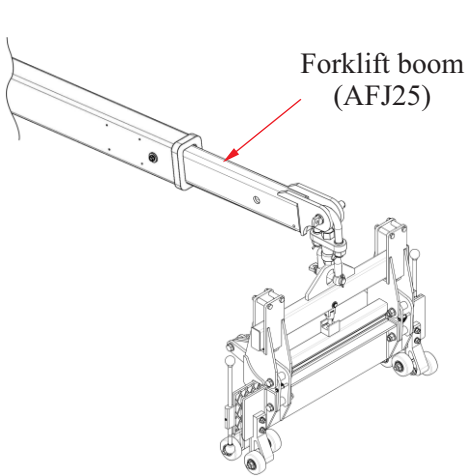

Figure 1a
- Hook the Stone/Steel/Glass/Woods Lifter to a forklift truck (figure 1a). (In this particular case using a forklift boom.)